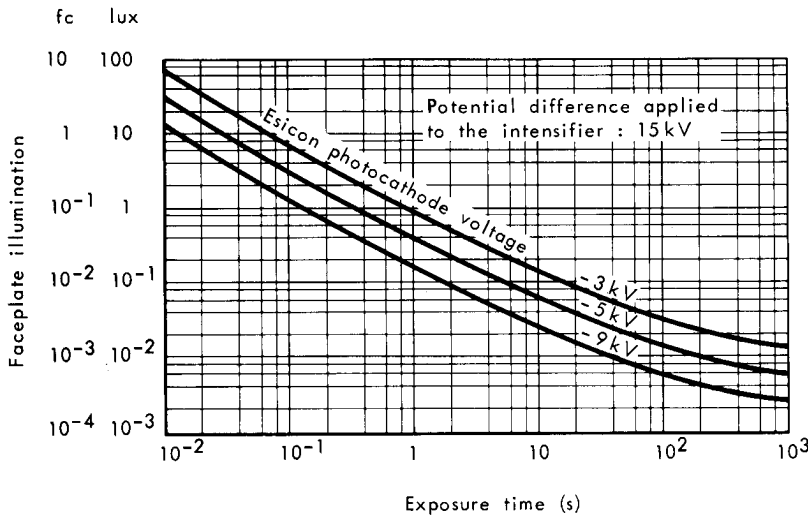

Fig. 1 - Maximum exposure levels.
- 4 - The tube should not be operated at exposure levels greater than those given in figure 1\*.